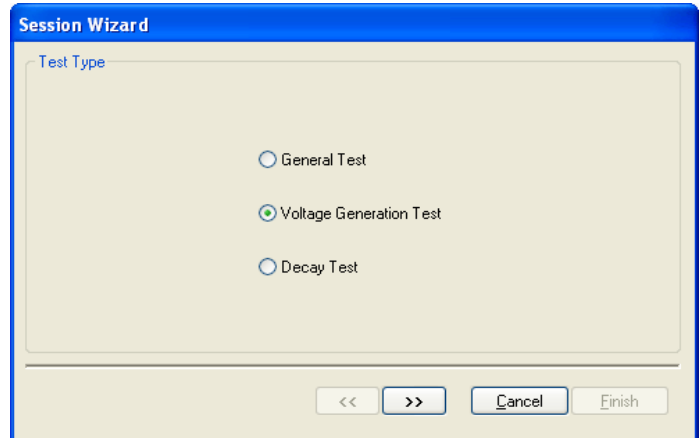

Figure 5: Start a new session
8. Select type of test. When the Session Wizard opens, choose **Voltage Generation Test** as in Figure 5. This opens a series of windows you may use to annotate your charts and provide report information.